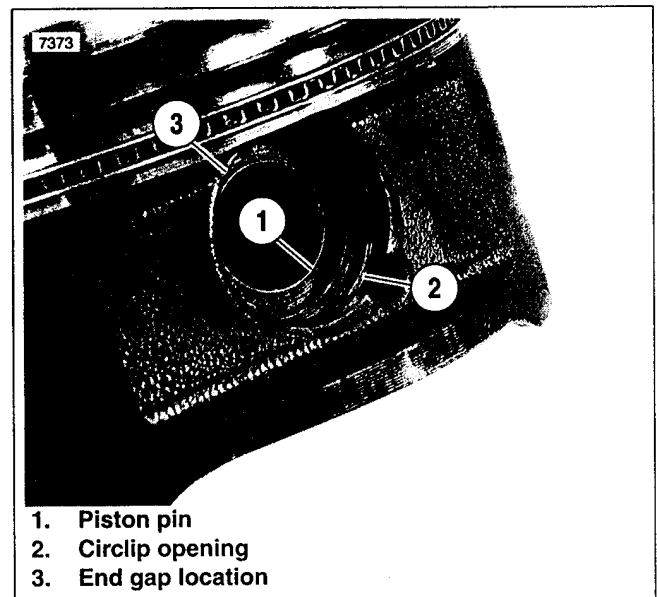

Figure 3-30. Preinstalled Circlip
5. See Figure 3-30. Insert piston pin (1) through pin bore and upper connecting rod bushing. Push pin until it contacts circlip installed in opposite pin boss. Verify that end gap (3) for circlip is 180 degrees from opening (2).